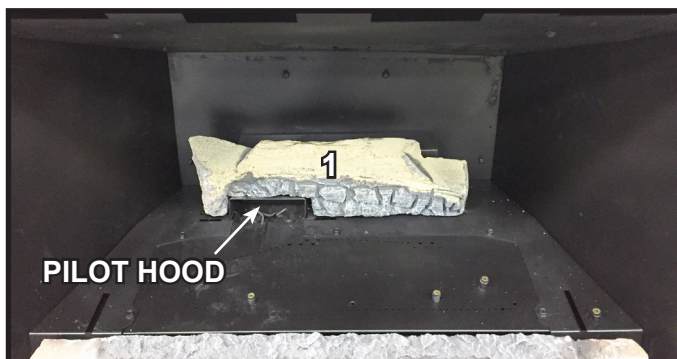

Figure 3. Log #1 Installed
**LOG #1:** With the pilot hood cutout of Log #1 on the left, place the cutout over the pilot hood and set Log #1 on the basepan. Slide the log back until it contacts the air scoop. See Figure 3.